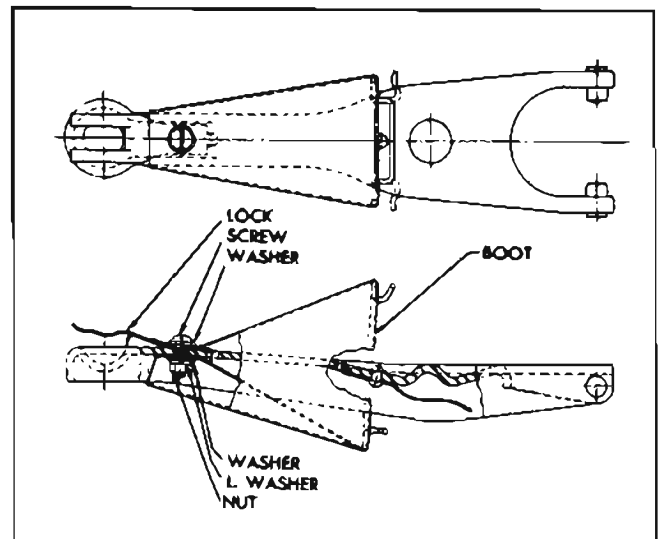

Figure 4-5—Clutch Release Yoke and Boot
2. Disconnect release rod from release yoke and remove yoke boot and release rod nut lock which are bolted to yoke. See figure 4-5.
8. Install boot and release rod nut lock on yoke (fig. 4-5), attach release rod to yoke, then adjust for clutch pedal lash of $\frac{3}{4}$ " (par. 4-4).